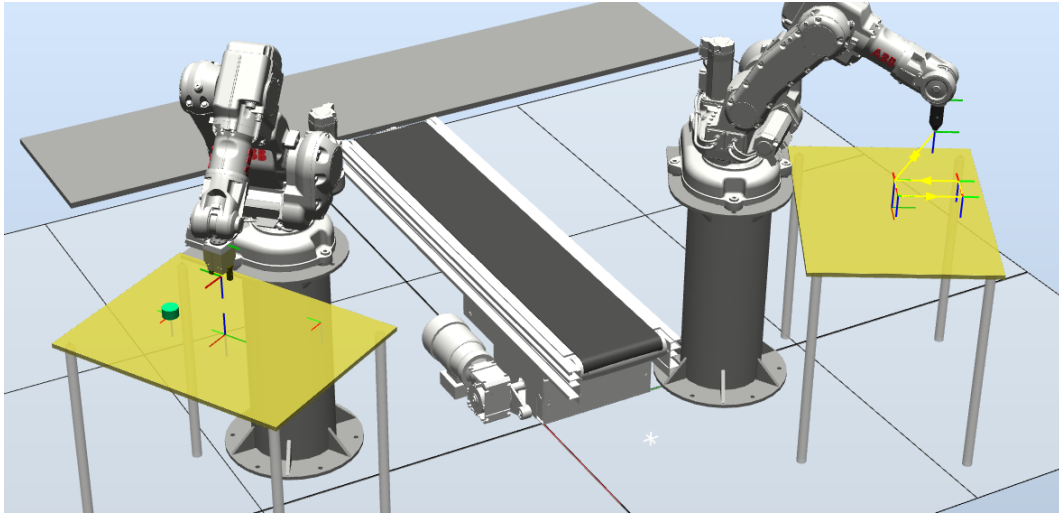

Figure 2: The model of UiS E458 robot cell in the Pack and Go file. Robot Norbert to the left (north) and Rudolf to the right (south).
- g. Finish unpacking by pressing . Activate the {Home}-tab, and your screen should look something like figure 2.